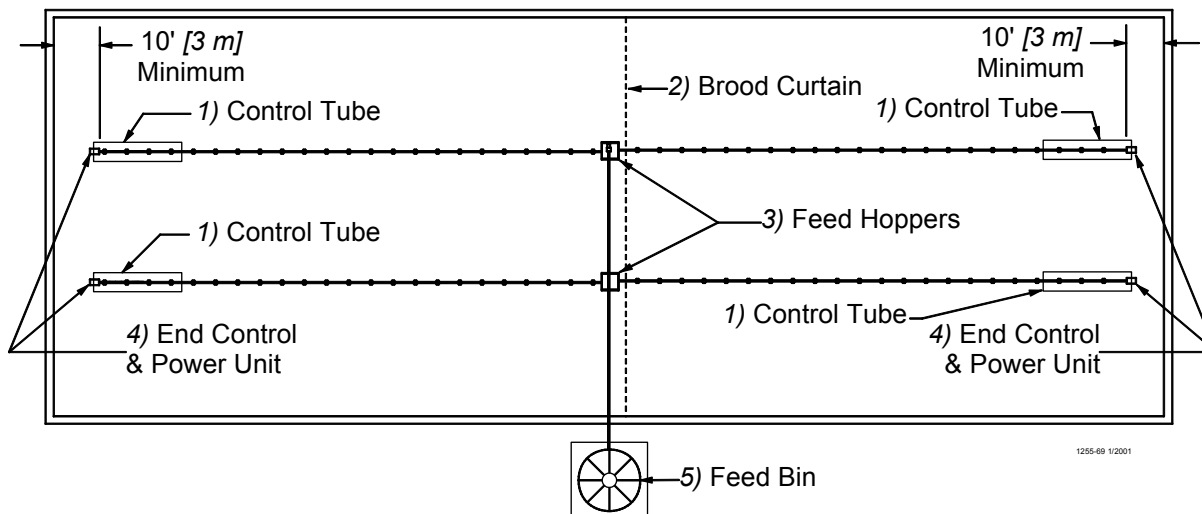

Figure 7. Component location diagram for systems over 400 feet [122 m]. (Top View).
- A. Systems with line lengths over 400' [122 m] should be split in the center, as shown in **Figure 7**. This will reduce auger running time and eliminate the need for Mid-Line Controls for partial house brooding.